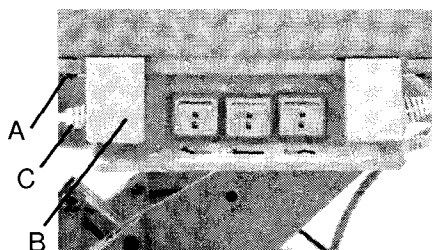

Figure 1 1232A116.tif
- 5 With the medium Phillips head screwdriver, slightly loosen the screw (A) securing the lock-out unit located to the right of the sleep surface (refer to figure 1).
- 6 Slide the connector cover (B) to the middle of the lock-out unit (refer to figure 1).
- 7 Remove the connector (C) from the lock-out unit (refer to figure 1).